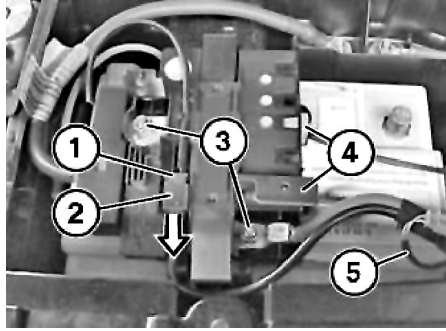

Fig. 2 Power distributor removal
- a. Disconnect plug connection (1), **Fig. 2.**
- b. Unlock plug housing (2) and release in direction of arrow, **Fig. 2.**
- c. Lift up covers on nuts (3), **Fig. 2.**
- d. Unscrew nuts (3), **Fig. 2.**
- e. Disconnect plug connection (4), **Fig. 2.**
- f. Disconnect plug connection of IBS cable (5), **Fig. 2.**
- e. Install nuts (3) and **torque** to 133 inch lbs., **Fig. 2.**
- f. Install covers over nuts (3), **Fig. 2.**
- g. Install plug housing (2), **Fig. 2.**
- h. Connect plug connection (1), **Fig. 2.**
- c. Connect plug connection of IBS cable (5), **Fig. 2.**
- d. Connect plug connection (4), **Fig. 2.**